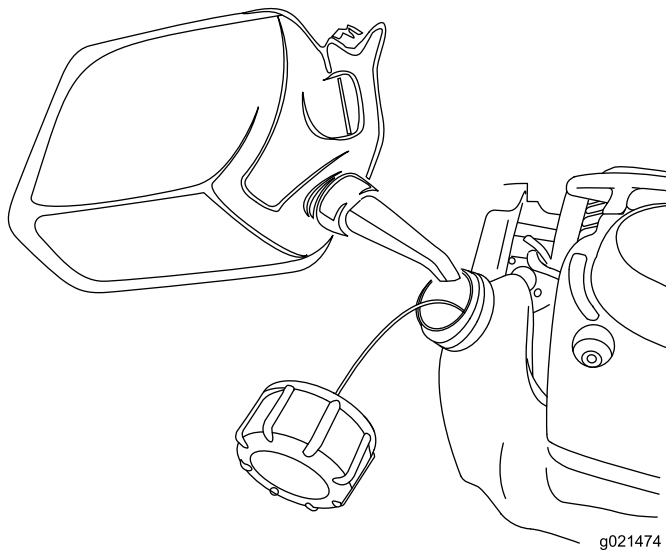

Figure 17
5. Pick up the can and add unleaded gasoline to the fuel tank as shown in Figure 17.